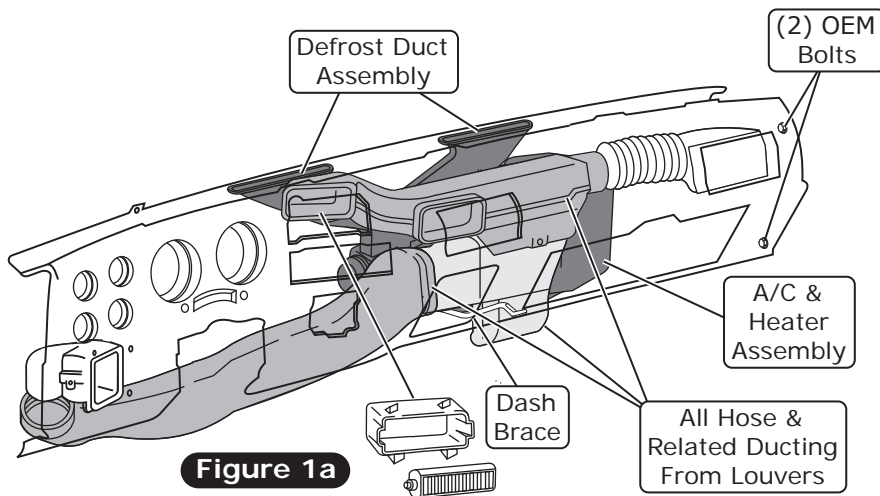

Figure 1a
NOTE: For ease of installing the evaporator under the dash, it may be helpful to remove the (2) OEM bolts under the dash on the passenger-side door pillar and pull back the dash. Some models may be equipped with a dash brace (remove and retain) (See Figure 1a, below).
8. Remove all the hose and ducting from the OEM louvers (See Figure 1a, below).
9. Remove the A/C & heater assembly (discard) (See Figure 1a, below).
10. Remove the defrost duct assembly (discard) (See Figure 1a, below).
2. Using (2) #12 x 1/2" self-tapping screws, secure the evaporator front mounting bracket to the cowl (See Figure 1a, below).
4. Reinstall the (2) OEM bolts under the dash on the passenger side door pillar.